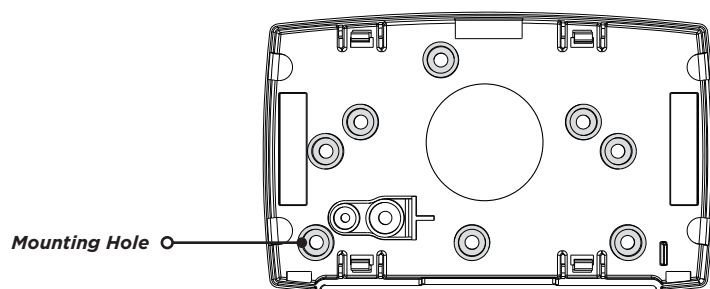

Figure 2: Mounting Hole Locations
Mount the device on a flat surface such as a wall or single-gang box. When using the optional Model 372-1000-W plug-in power supply, mount the device near a wall outlet. See Figure 2 for an example of all mounting holes on the housing base. Use any combination.
3. Connect the DC terminal (-) to the negative terminal on the power supply. See Figure 2.